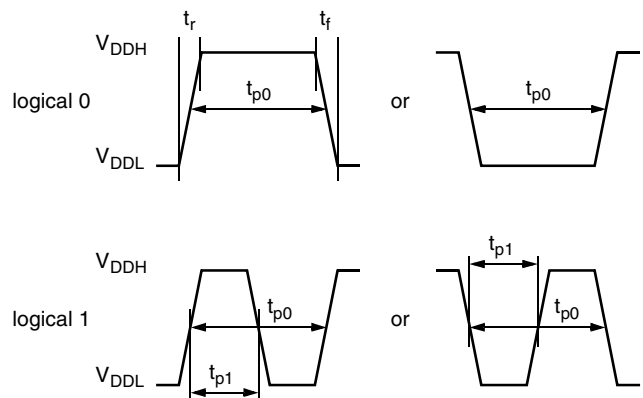

Fig. 5–1: Definition of logical 0 and 1 bit
- Write a register (see Fig. 5–2)
- Read a register (see Fig. 5–3)
- Programming the EEPROM cells (see Fig. 5–4)
- Activate a sensor (see Fig. 5–5)